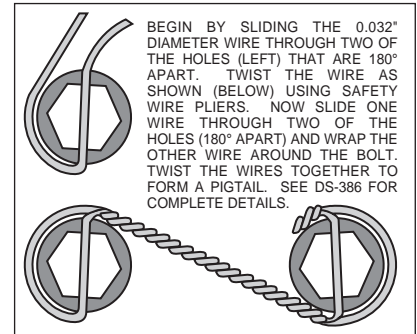

Figure 3. Safety Wire Diagram
- With the larger I.D. side of the rotor (3) facing away from the hat (4), bolt rotor (3) to hat (4) through the backside of the rotor using washers (5) and bolts (6). Using an alternating sequence, apply red *Loctite*® 271 to the threads and torque bolts to 140 in-lb. Bolts must be safety wired using standard 0.032 inch diameter stainless steel safety wire as shown in Figure 3. Please refer to Wilwood's data sheet DS-386 (available at www.wilwood.com/Pdf/DataSheets/ds386.pdf) for complete safety wire installation instructions.